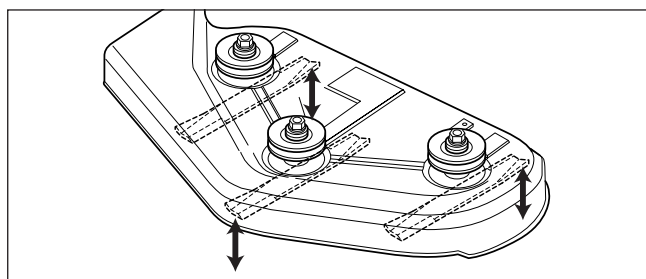

Figure 41. Orient Blades Front-to-Back
6. Arrange the blades so they face front-to-back (Figure 41).